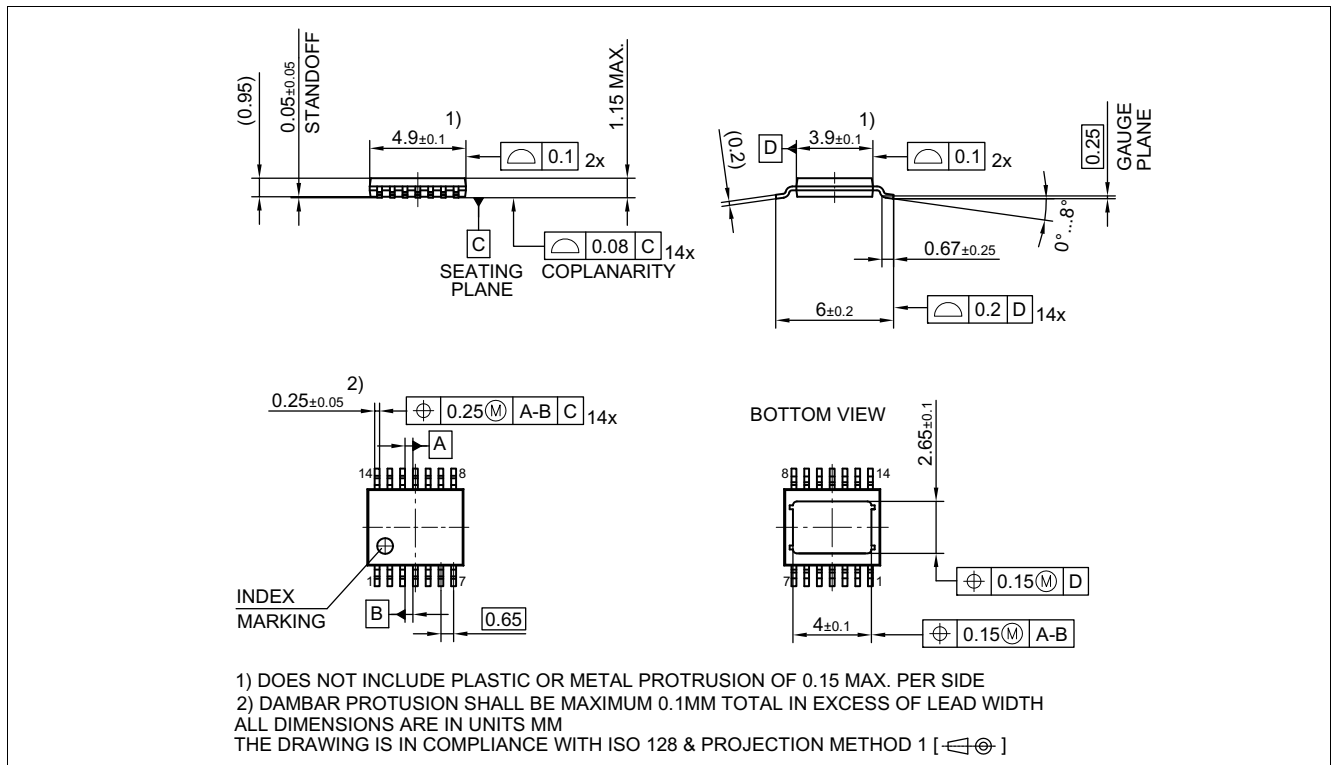
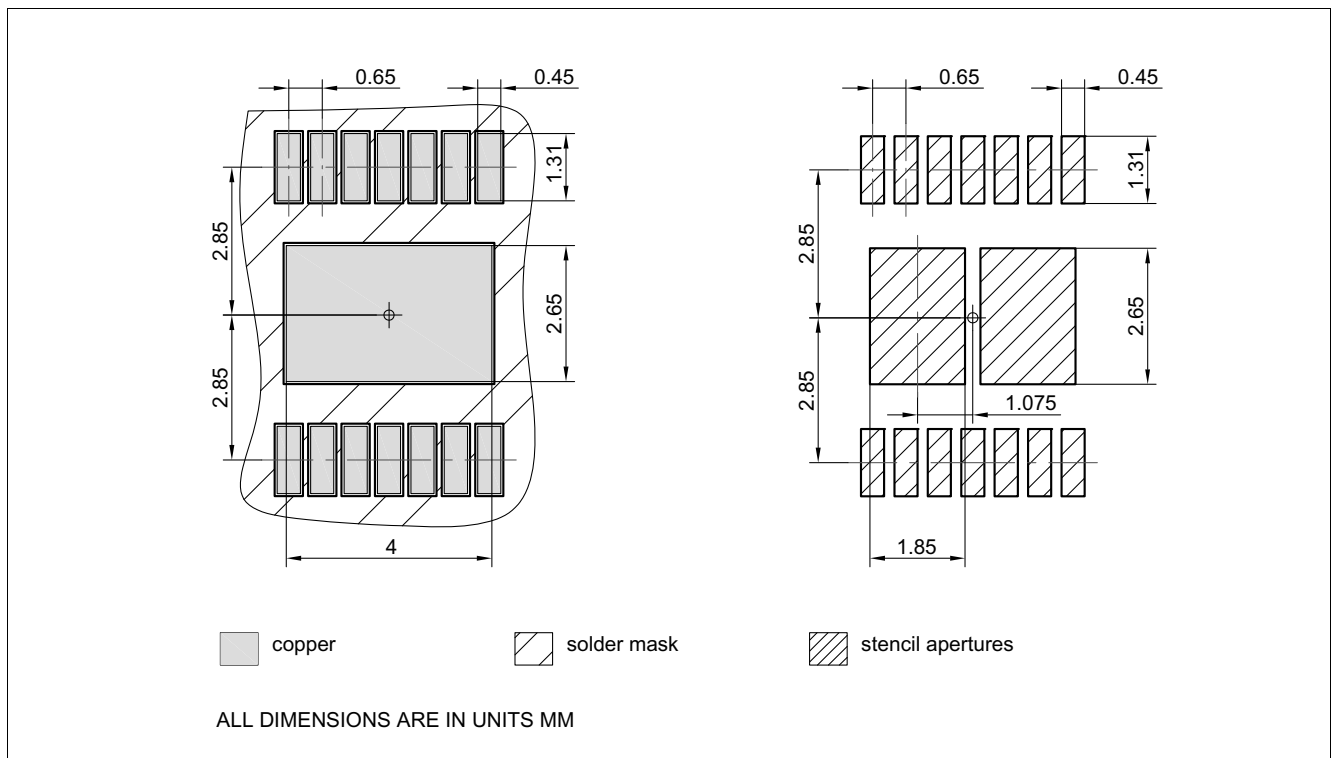

Figure 43 PG-TSDSO-14 (Thin (Slim) Dual Small Outline 14 pins) Package Outline
Figure 44 PG-TSDSO-14 (Thin (Slim) Dual Small Outline 14 pins) Package pads and stencil
1.02, 2019-06-26	<p>Chapter 9.2 updated ($2V \rightarrow V_{DS(OLOFF)}$)</p> <p>Chapter 1 updated ((inserted headline "Product Validation"), (Qualified in accordance with AEC Q100 grade 1 → Qualified for automotive applications. Product validation according to AEC-Q100 Grade 1.))</p> <p>General: updated Product Name (PROFET™+2 → PROFET™+2 12V)</p> <p>Page 1: updated figure product</p> <p>P_8.7.9.5, P_8.7.9.6 updated (Typ.: 4 A → 6 A)</p> <p>Table 24 updated punctuation</p> <p>Chapter 9.3.1 updated (typo)</p> <p>Page 1: updated (Package PG-TSDSO-14-22 → Package PG-TSDSO-14)</p> <p>Figure 29 updated</p> <p>Figure 43 updated (PG-TSDSO-14-22 (Thin (Slim) Dual Small Outline 14 pins) Package Outline → PG-TSDSO-14 (Thin (Slim) Dual Small Outline 14 pins) Package Outline)</p> <p>Figure 44 updated (PG-TSDSO-14-22 (Thin (Slim) Dual Small Outline 14 pins) Package pads and stencil → PG-TSDSO-14 (Thin (Slim) Dual Small Outline 14 pins) Package pads and stencil)</p> <p>Table 1 updated ((Symbol: $I_{VS(SLEEP)} \rightarrow I_{VS(SLEEP)_{85}}$), (Parameter: Minimum Overvoltage protection ($T_j = 25^\circ\text{C}$) → Minimum Overvoltage protection ($T_j \geq 25^\circ\text{C}$))</p> <p>P_9.6.0.6 updated (Note or Test Condition: removed unnecessary line-break)</p>